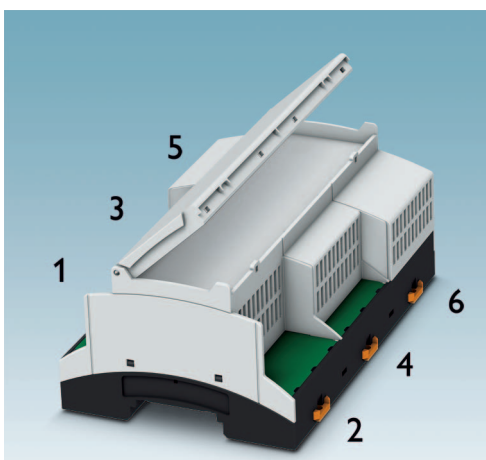

Figure 3 Positions for order key
- When the side panel is located at the innermost position, the installation space for connection technology is maximized to 22 mm (see Figure 3, pos. 1 and 2).
- In the middle side panel position there is 11 mm of space on the outside for the connection technology (see Figure 3, pos. 3 and 4).
- The maximum mounting surface for the PCB is available when the side panel of the upper housing part is flush with the outside edge of the lower housing part (see Figure 3, pos. 5 and 6)
Example for Figure 3: